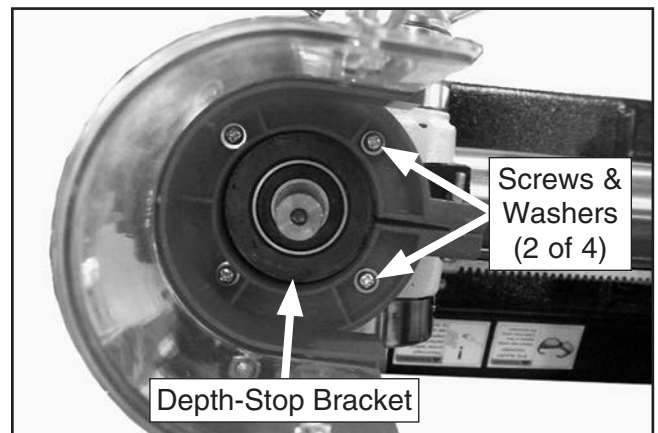

Figure 22. Chuck guard secured to depth stop bracket.
18. Secure chuck guard to bracket with (4) M4-.7 x 10 Phillips head screws and (4) 4mm flat washers, as shown in **Figure 22**.